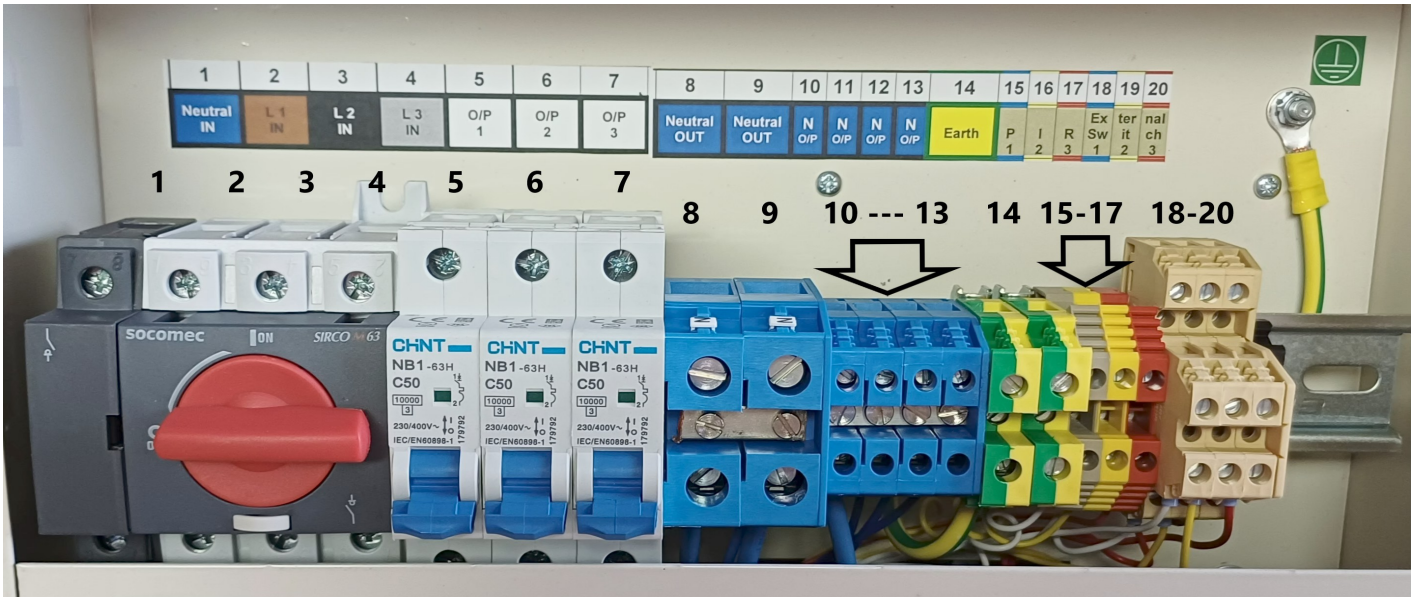

Fig 2
- a) Connect the heater or heaters Live to O/P1 terminal #5 **switched L1**, the O/P has a maximum load capacity of 9kW or 40amps. O/P1 can also be referred to as Zone 1. Connect the heater Neutrals to **Neutral Out** terminals #8 – 13. The heater Earth is connected to the **Earth** terminal #14. The remaining heaters should be distributed across the remaining two outputs O/P2 & O/P3. Please ensure that the **load is balanced across the output terminals #5 – 7**. See fig. 2 Specially when using Single phase heaters!